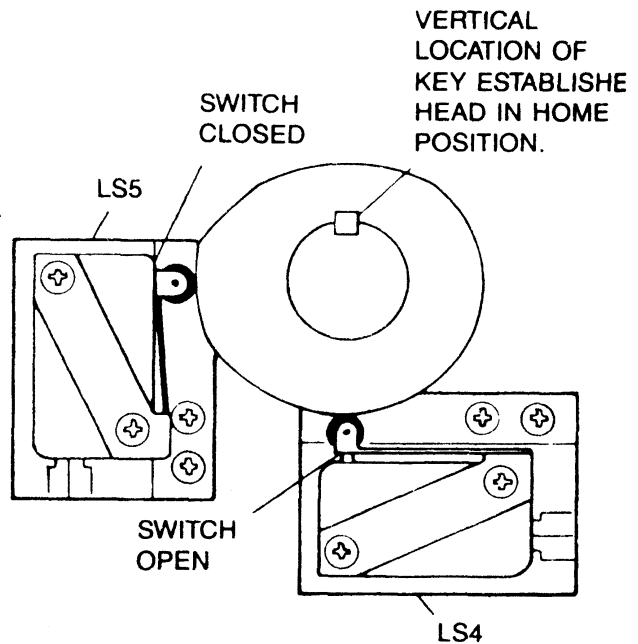

FIGURE 22. LS4 AND LS5
2. If the micro-switches need adjusting, loosen the mounting screws and set LS4 and LS5 as seen in Figure 22. When properly set, tighten the mounting screws.
1. Adjust the clearance of LS5 in relation to the switch cam. Refer to Figure 22.